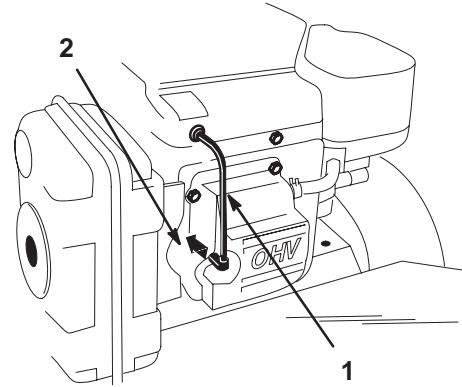

Figure 33
3. Pull the wire(s) off the spark plug(s) (Fig. 33). Now clean around the spark plug(s) to prevent dirt from falling into the engine and potentially causing damage.
3. Push the wire(s) onto the spark plug(s) (Fig. 33).